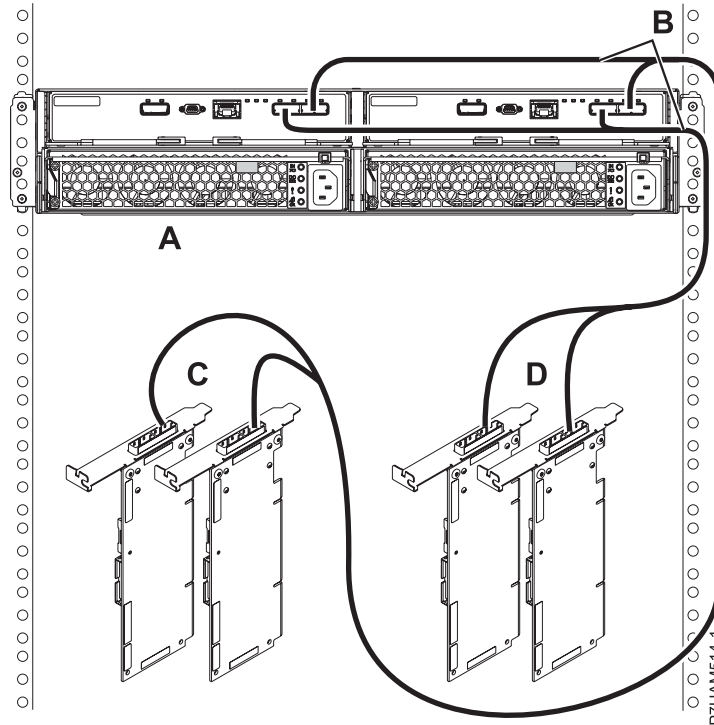

Figure 32. Mode 2 connection of one 58/87 disk drive enclosure by using X cables to two SAS adapter pairs
- m. Perform the mode 2 connection of one 58/87 disk drive enclosure (A) by using X cables (B) to two SAS adapter pairs as shown in Figure 32 on page 29.